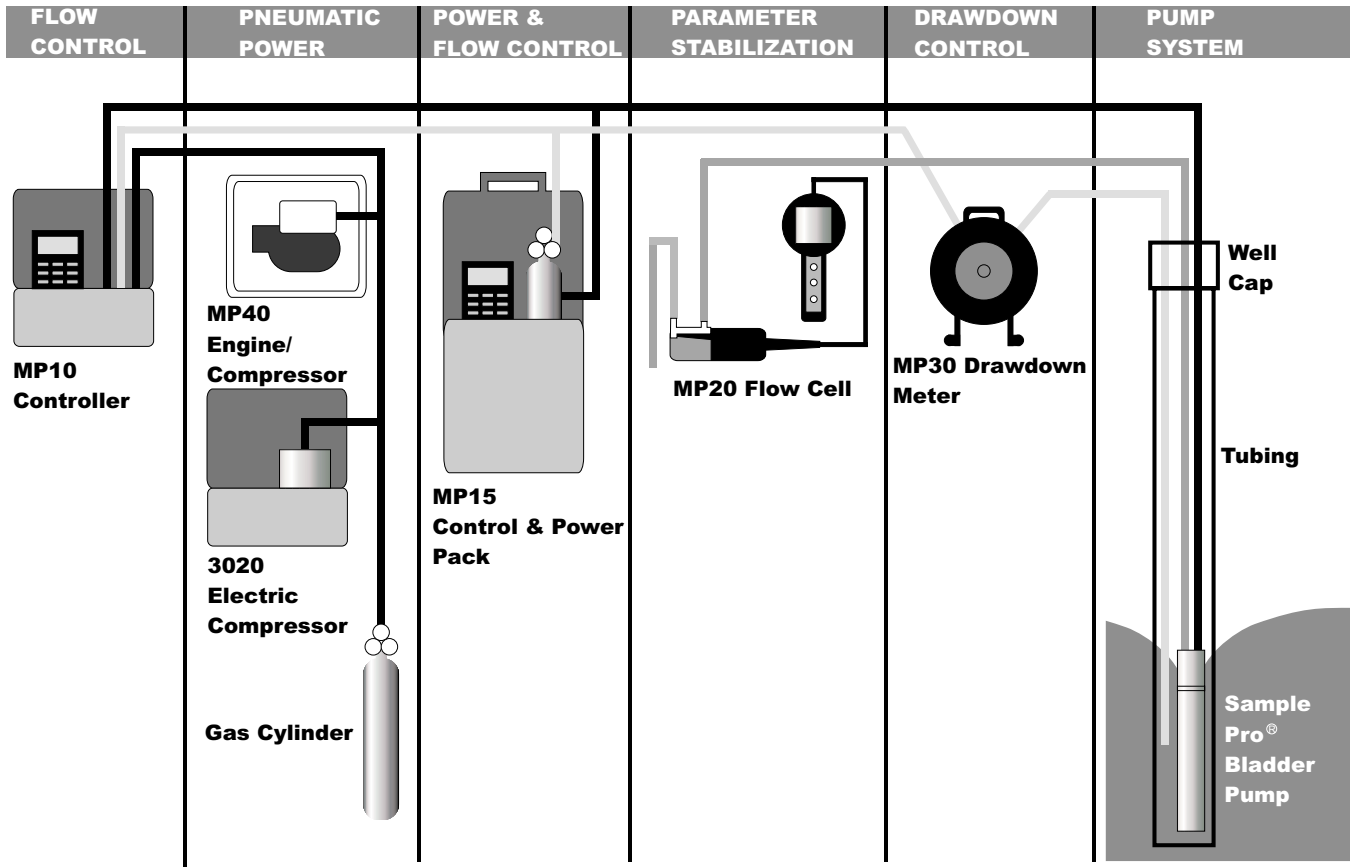

Figure 2
3. Connect the MP30 to the MicroPurge **basics** controller with the cable provided (See **Figure 2** below).
4. Connect MicroPurge **basics** controller (MP10 or MP15) to pump air supply fitting on the well cap (See **Figure 2** below).
5. Connect the pump discharge tube to the MP20 Flow Cell inlet tube (See **Figure 2** below) and press the MP20 Power "ON"  key.